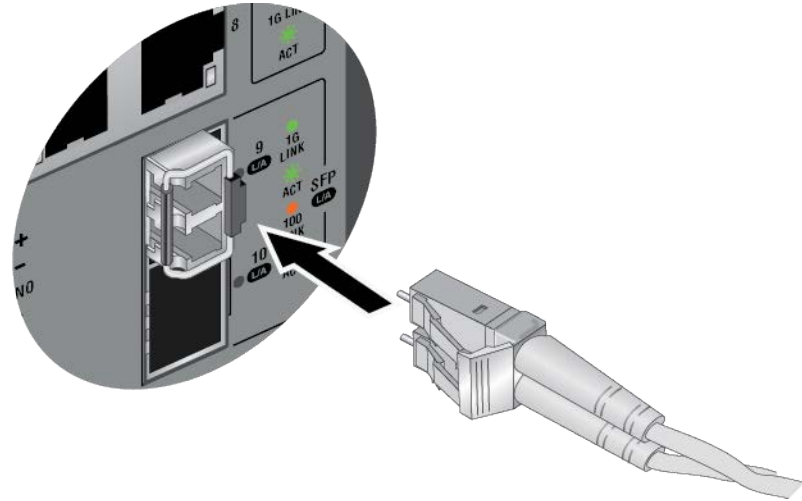

Figure 35. Connecting a Fiber Optic Cable to a Transceiver
6. Connect the fiber optic cable to the transceiver. The connector on the cable should fit snugly into the port, and the tab should lock the connector into place. Refer to Figure 35 on page 93.